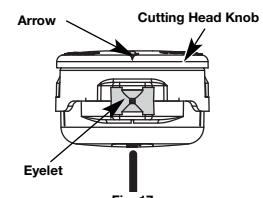

Fig. 17
- Align the arrows on the cutting head knob with theouterspool eyelets, if they are not already.(Fig. 17)